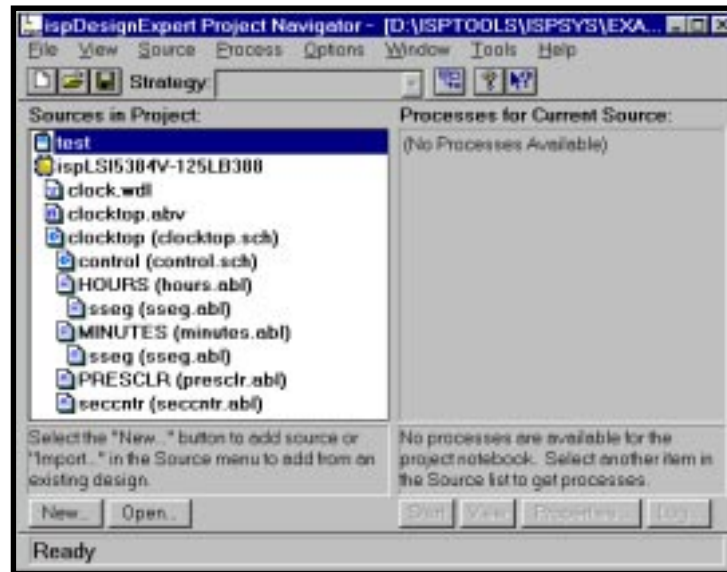

Figure 1-7. Project Navigator with Sources Imported
3. When you are finished selecting these sources, click **OK**. The selected sources appear in the Project Navigator Sources window (Figure 1-7).